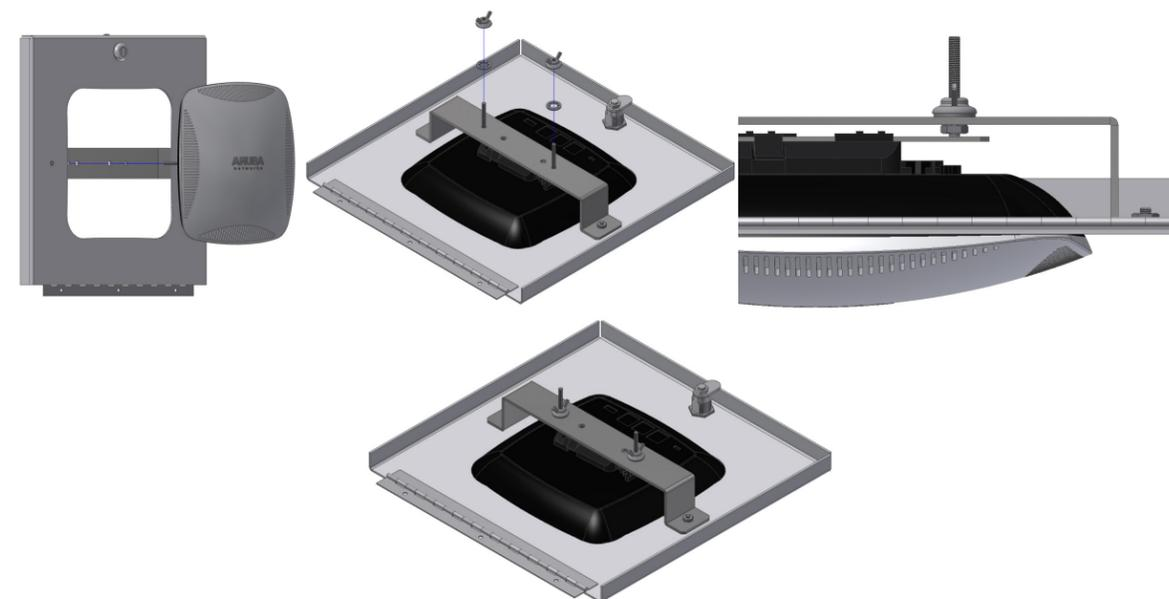

Figure 5
**Step 5** – Align the threaded studs to the two outer holes in the bracket attached to the door. Once the access point is snug in the hole, place the lock washer and wing nut onto the threaded rod. Tighten wing nuts until they are snug. With your fingers, tighten the hex nuts on the underside of the bracket then re-tighten the wing nuts until they no longer move freely (Ref. Figure 5).